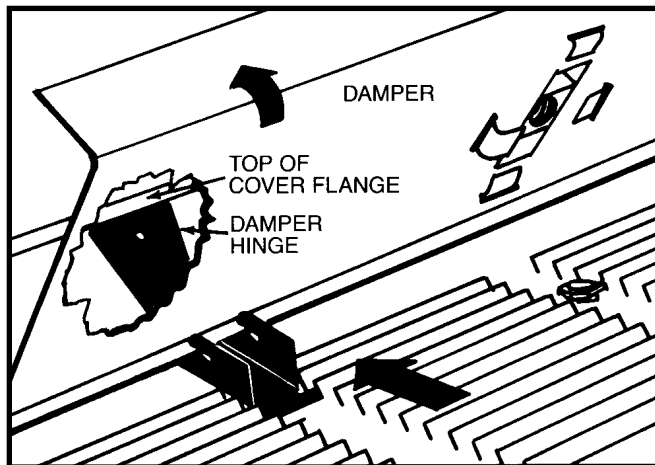

FIGURE 4
4. Position top of each damper hinge so that it presses against intersection of top of cover and cover top flange (see Figure 4).
5. Grasp damper firmly and lift as shown in Figure 4 and push damper towards the top of cover while rotating damper just enough to be able to snap bottom of damper hinge into space between the second and third louver blades of the first and second row of louvers.